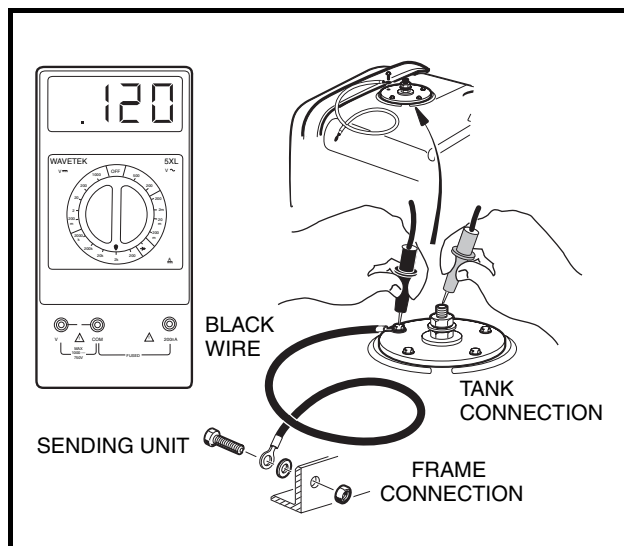

Figure 11-52 Test Fuel Level Sending Unit
4. With a multimeter set to 2k ohms, place the red (+) probe of the multimeter on the center post of the sending unit. Place the black (-) probe on the ground connection of the sending unit (**Figure 11-52, Page 11-43**).